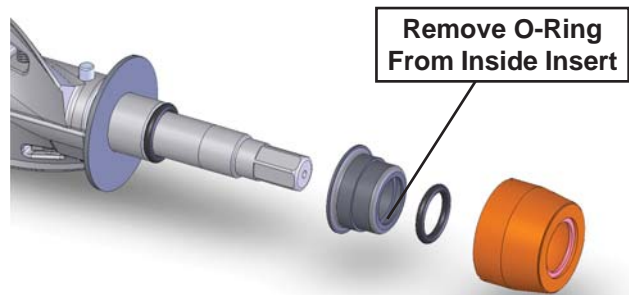

Figure 3-6 Rear Seal Removal
- Wipe spline lubricant off of the hex end of auger with a paper towel. Remove the rear seal assembly (Fig. 3-6).